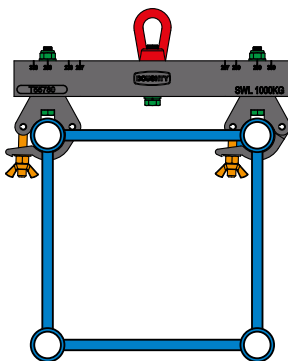

Fig 2.
5. Should the Truss Adaptor need to be reconfigured for use as shown in Fig 2 & 3 only move the Couplers.